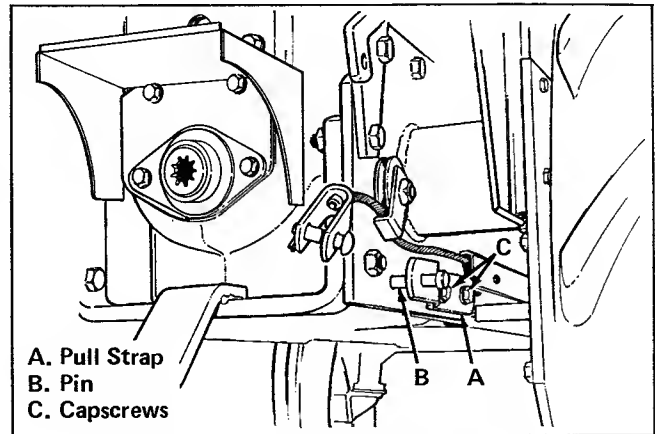

Figure 6. Install Right Hand Pull Strap
11. Before installing right-hand pull strap (item A, figure 6) insert pin (item B) to rear hole of pull strap. Secure pull strap using two of the new (longest in bag) capscrews (item C) included with 3 point hitch. Use two lockwashers removed earlier in step 10. Torque capscrews to 75 foot pounds (100 N·m).